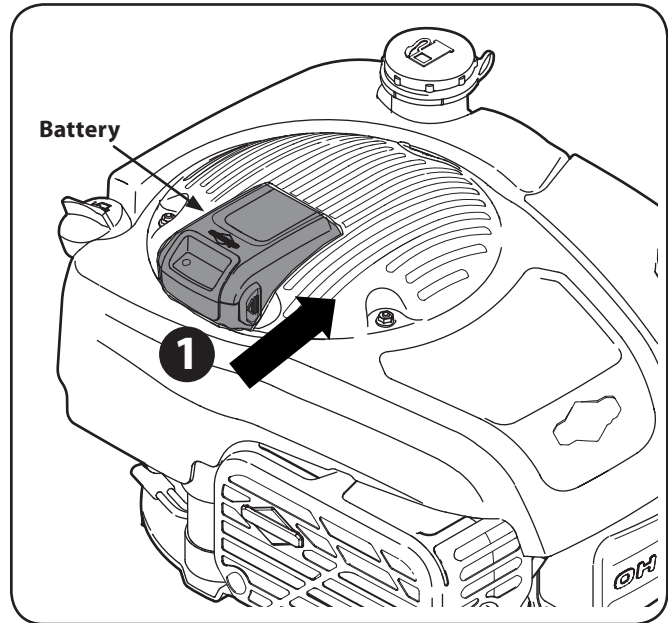
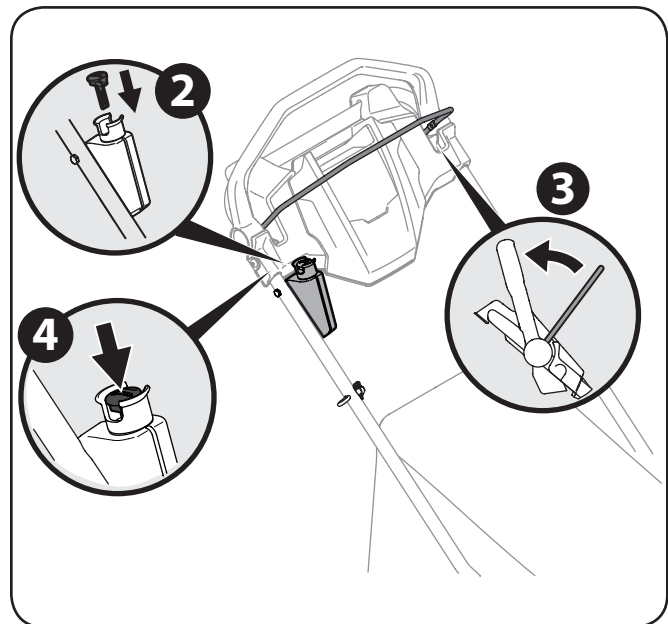

Figure 5-1
Figure 5-2
1. Check the battery tray on top of the engine for debris and if dirty clean with a brush or cloth. Push the battery pack into the battery tray until it clicks on top of engine. See Figure 5-1.
**Note:** To wake up a new battery, a First Time quick charge of approximately ten (10) seconds is required. See the **When To Charge Battery Pack** section.
3. Standing behind the mower, pull the blade control back against the drive control. See Figure 5-2.
4. Push the electric starter push key to start the engine. See Figure 5-2.